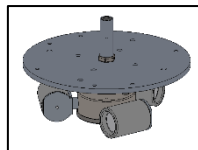

FIG. 8 - REFLECTOR
6. REFLECTOR SUBASSEMBLY (Pre-assembled as shown in FIG. 8)